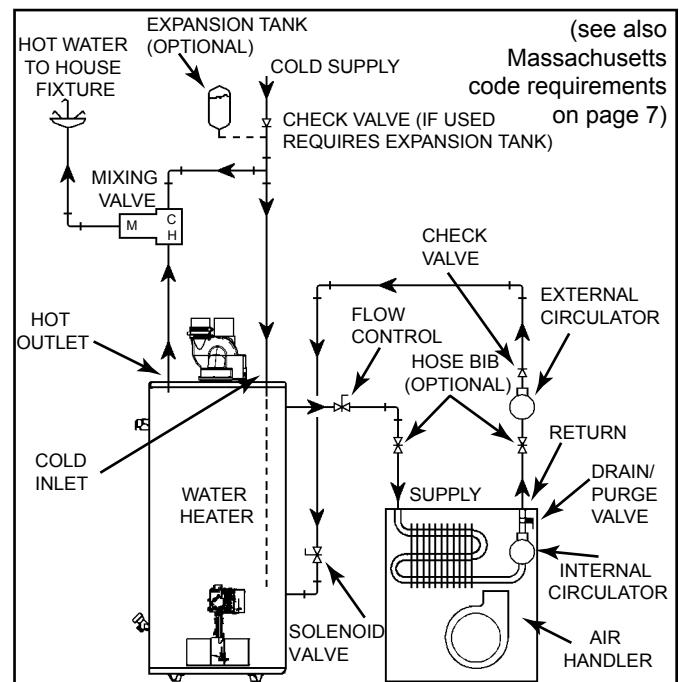
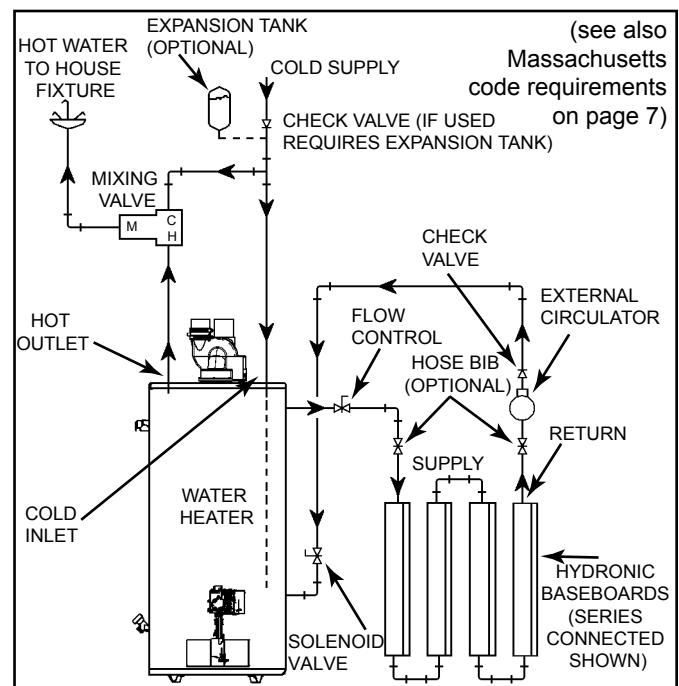

Figure 14.
Figure 15.
8. "Combo" Heating Systems require higher water temperatures than other applications. When the system is used to supply water for Combo Heating applications, a means, such as mixing valve, must be installed to temper the water in order to reduce scald hazard potential (see Figure 14 & Figure 15).
- A. A fan coil/air handler (Figure 14).
- B. A hydronic baseboard (finned tube) loop/in floor heating (Figure 15).